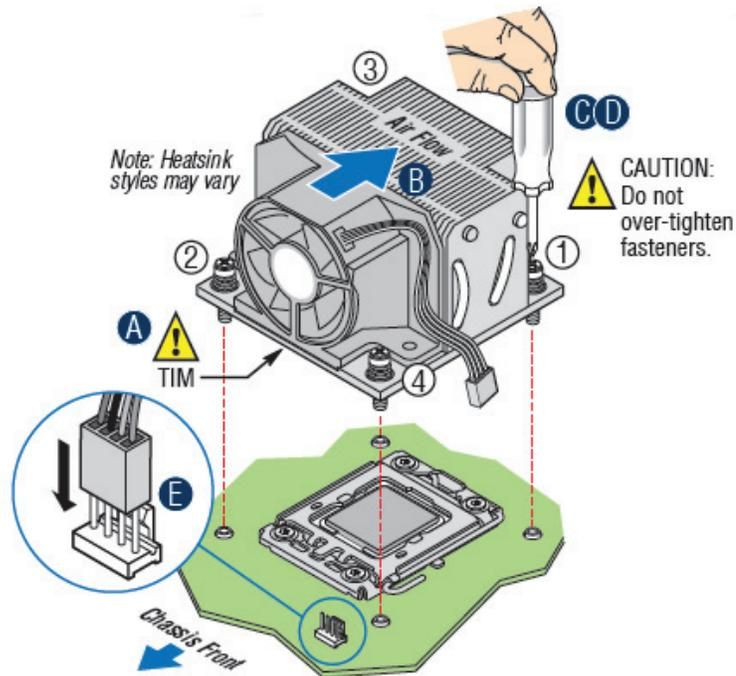

Figure 14. 2U Reference Heat Sink Assembly
4. Using a #2 Phillips* screwdriver, finger-tighten each fastener diagonally according to the white-circled numbers (see Figure 14).